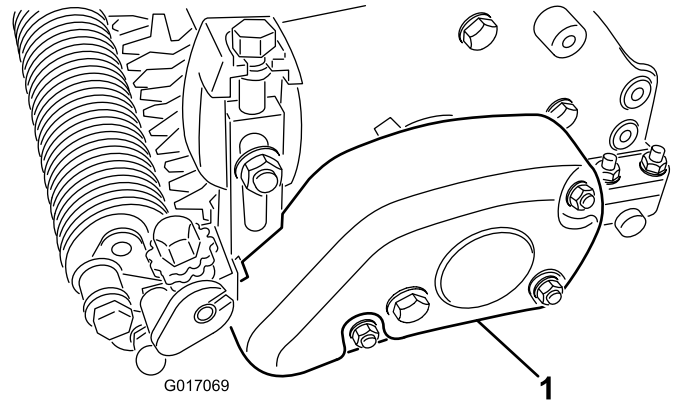

Figure 16
31. Mount the belt cover to the groomer housing assembly with 3 locknuts (Figure 16).